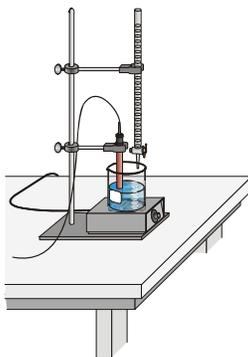

Figure 1
5. Set up a ring stand, buret clamp, and buret to conduct a titration (see *Figure 1*). Place a utility clamp on the ring stand to hold the pH Sensor in place during the titration.
6. Use a utility clamp to suspend the pH Sensor on the ring stand (see Figure 1). Position the pH Sensor so that its tip is immersed in the HCl solution but is not struck by the stirring bar. Gently stir the beaker of acid solution.